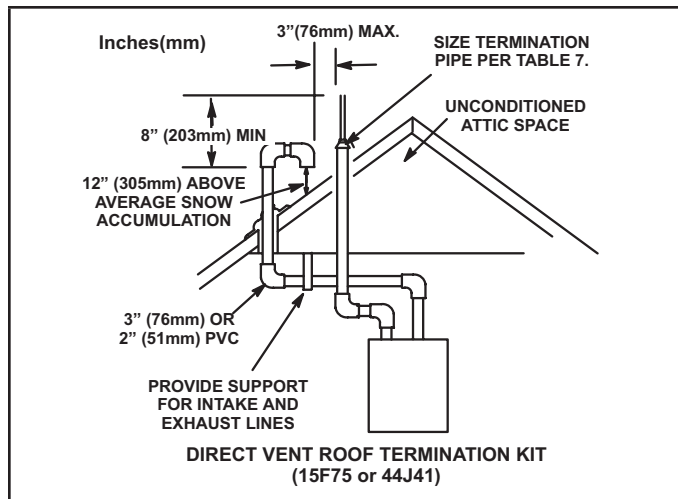

FIGURE 22
Intake and exhaust pipes may be routed either horizontally through an outside wall or vertically through the roof. In attic or closet installations, vertical termination through the roof is preferred. FIGURE 22 through FIGURE 30 show typical terminations.
- 3 - On roof terminations, the intake piping should terminate straight down using two 90° elbows (See FIGURE 22).